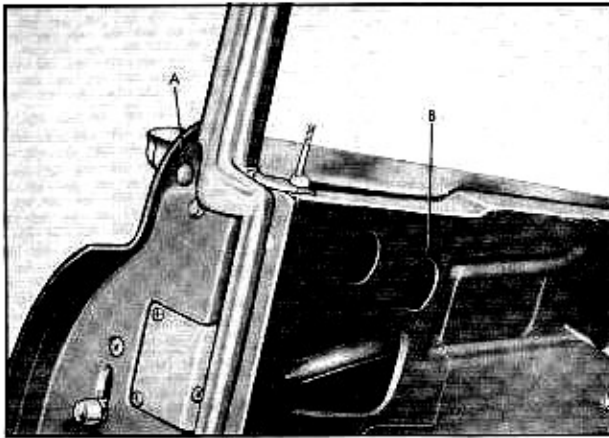

Fig. 3-2 Door Handle Screw Access Holes
3. Remove rubber plug from access hole "A" directly behind the door handle on 60S series front doors. Fig. 3-2.